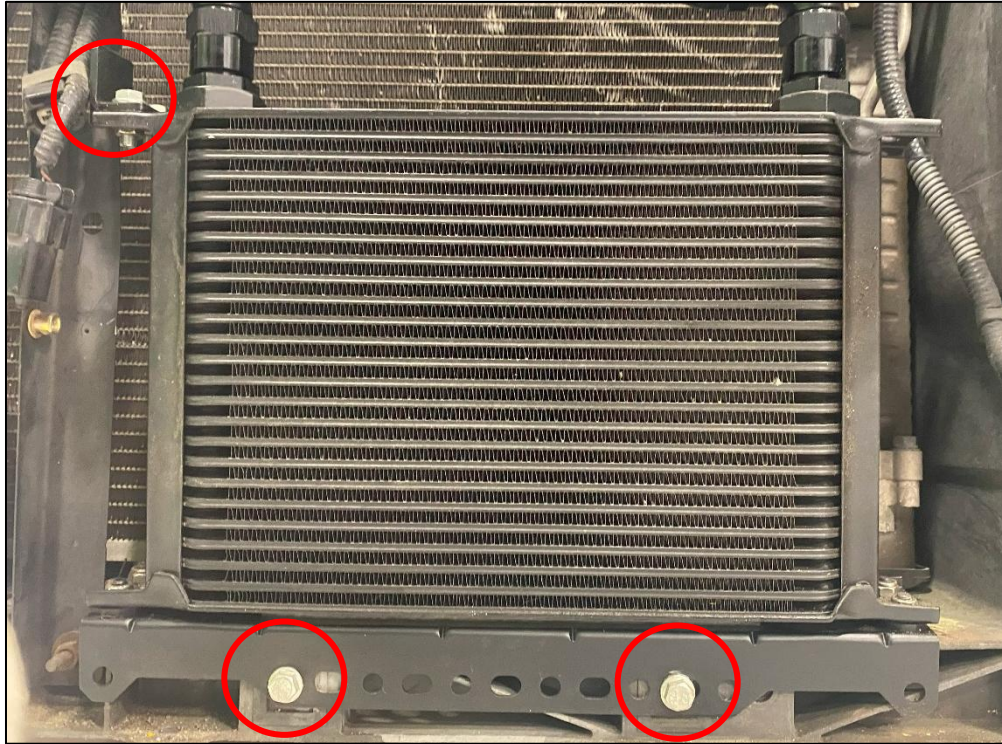

Figure 14
21. Locate (1) one Oil Cooler Fitting. Using a Silicone Based Lubricant, lubricate the threads and O-Ring on the Fitting.
22. Install the Oil Cooler Fitting into (1) one port of the Procooler and tighten the fitting. These fittings do need to be snug but overtightening them can destroy the threads or O-Rings and cause leaks.
25. Carefully reinstall the Oil Cooler Core into the vehicle. Secure the bottom with the (2) two M6 x 1.0 Flanged Head Bolts, 20mm. Secure the Upper Bracket to the Center Core Support Brace with the remaining M6 Bolt and an M6 Nut. *Figure 14.*